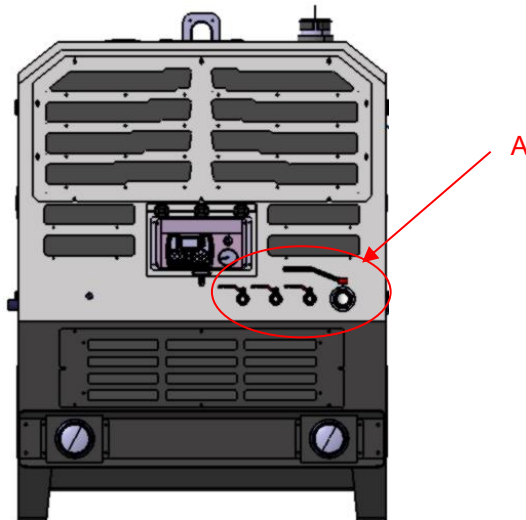

Figure 10.2-1 Location of the taps
3. Gradually open the air valve (Letter A in Figure 10.2-1);